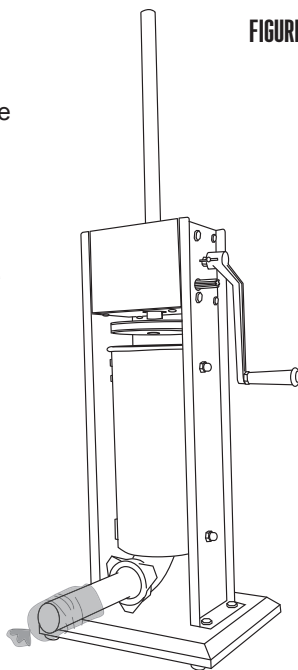

FIGURE 9
7. Slip a casing on the end of the funnel until the entire casing has slid onto the funnel (**FIGURE 9**).